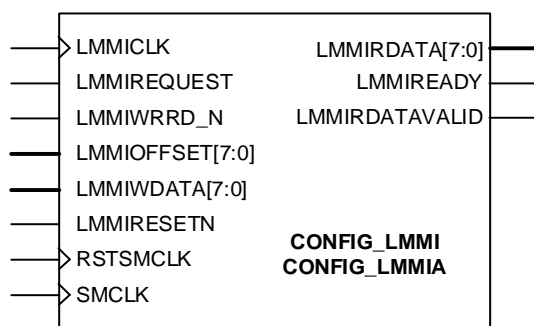

Figure D.1. CONFIG\_LMMI(A) Primitive Pin Diagram
The pin diagram of CONFIG\_LMMI(A) primitive is shown in Figure D.1. The description of the I/O and parameters are shown in Table D.1 and Table D.2.